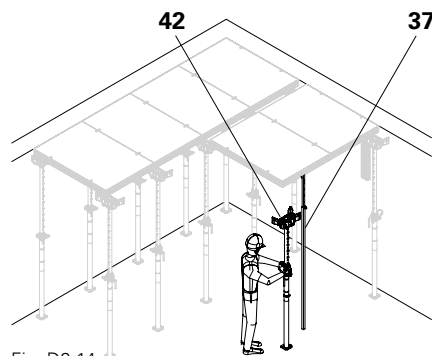

Fig. D2.14c
3. Place the slab prop with DBH backpropping head (**42**) at the end of the panel in an inclined position from the inside and align outwards. Spacing 1.50 m (Fig. D2.14c)